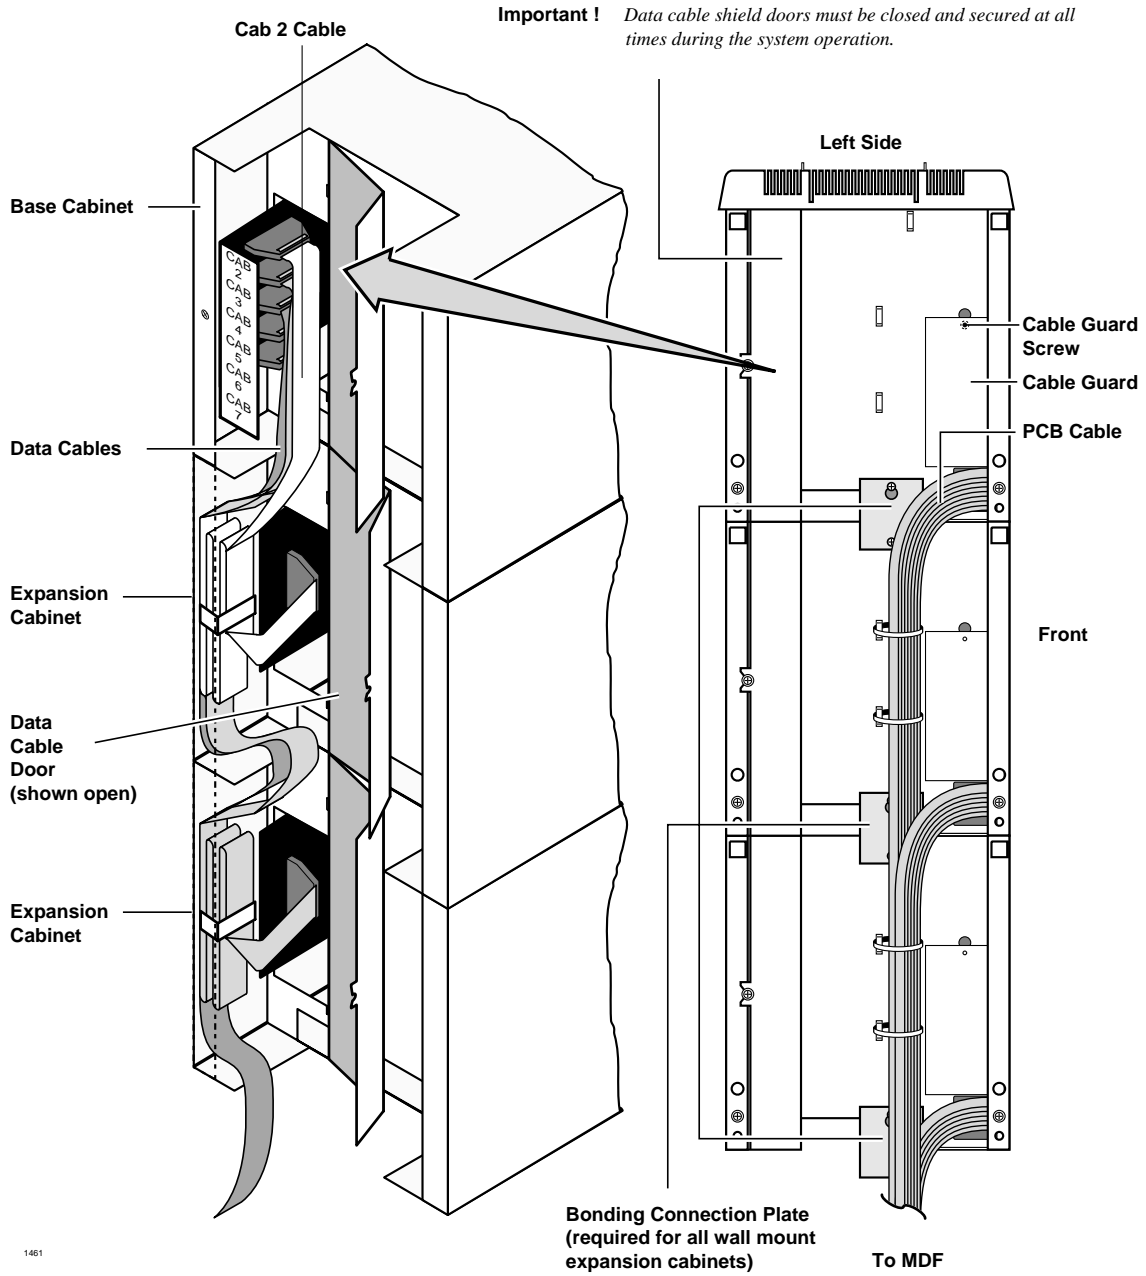

Figure 5-10 Left Side View of Cabinet Interior
6. Install PCBs and PCB cabling.	<a href="#">Figures 5-10, 5-12, and 5-21</a> .
- ♦ Connect the Expansion Cabinet data cable to the “CAB. 2” data cable connector on the Base Cabinet (Figures 5-10 and 5-28).
12. Connect the data cable of each Expansion Cabinet to the applicable data cable connector on the Base Cabinet (Figures 5-10 and 5-28). (The data cable from the first Expansion Cabinet should be connected to the connector labeled “CAB. 2”, the cable from the second Expansion Cabinet to the “CAB. 3” connector, etc.)